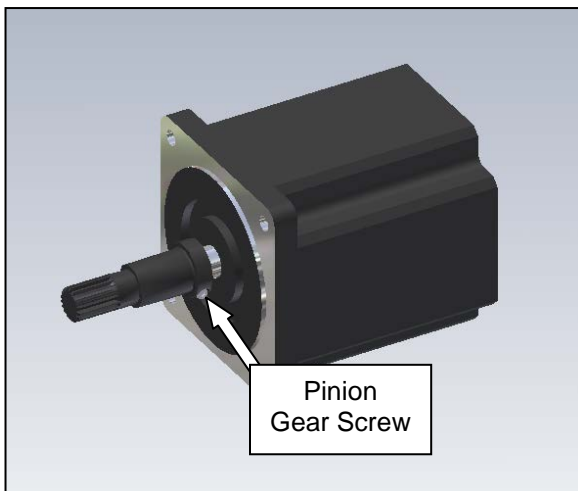

Figure 3-286. Pressure Bar Motor and Pinion
1. Gently slide the motor out of the gearbox. Once removed, loosen the screw on the gearbox pinion, and remove (Figure 3-286).